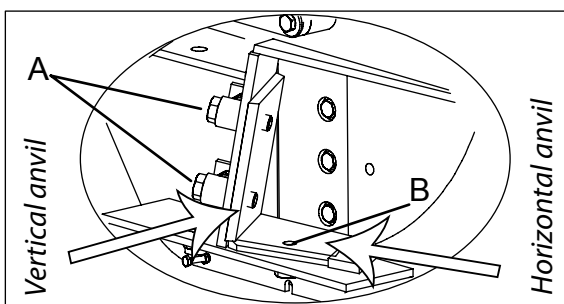

Fig. 16. Anvil fastening bolts
The chipper features both a vertical and horizontal anvil. To remove the anvils, open the fastening bolts (A) and (B) (M16). The horizontal anvil fastening bolt (B) is located below the feed opening. Fig. 16.